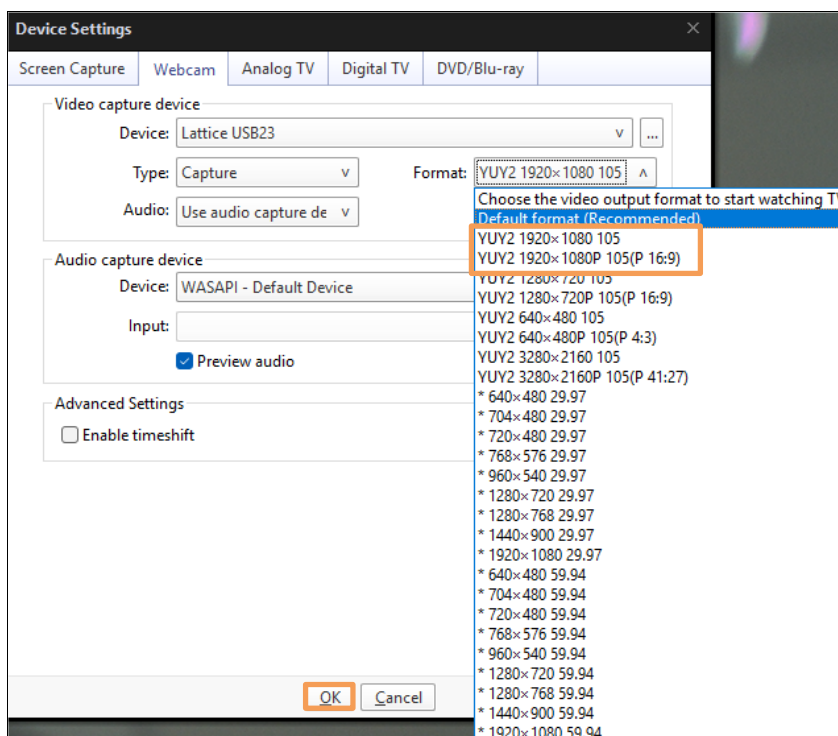

Figure 7.2. 1080p Selection in PotPlayer
3. In the Format drop-down menu shown in Figure 7.2, select the **YUY2 1920x1080** option. Then click **OK**.